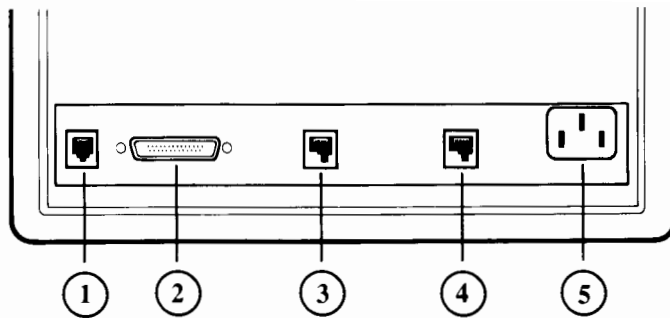
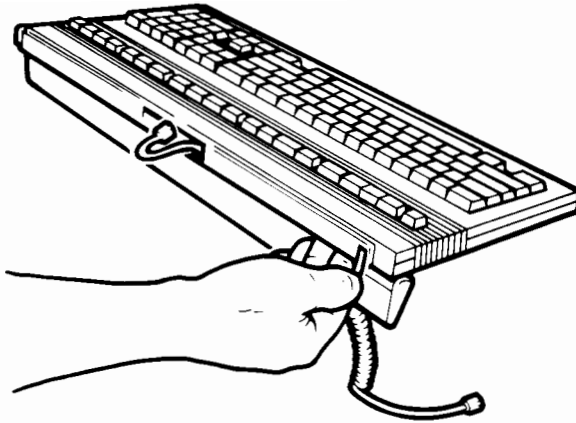

Figure 1-3. Display Unit Rear Panel Connections
Figure 1-4. Keyboard Cord Attachment and Angle Adjustment
3. Connect the keyboard cable. Both ends are identical. Plug one end into the rear of the display unit (Item 1 in Figure 1-3). Plug the other end into the connector located at the center rear of the keyboard (Figure 1-4).
- *If you are using the RS-232C connector*, connect the cable to Port 1's 25-pin connector on the terminal's rear panel (Item 2 in Figure 1-3). The other end must be connected to the a RS-232 computer port controller or modem. If you are connecting to a modem, follow the installation instructions in its manual.
- *If you are using the RS-423 connector*, connect the cable to Port 1's 6-pin offset phone connector on the terminal's rear panel (Item 3 in Figure 1-3). The other end must be connected to a RS-423 computer port controller or modem. If you are connecting to a modem, follow the installation instructions in its manual.
5. If you have an auxiliary device (such as a printer), connect its cable to the auxiliary port. The auxiliary port is labeled **Port 2** on the terminal's rear panel (Item 4 in Figure 1-3). The other end must
6. Connect the power cord. Plug the slotted end of the power cord into the AC socket on the right rear of the display unit (Item 5 in Figure 1-3). Plug the three-pronged end of the power cord into the electrical outlet. The outlet should be properly wired and grounded.
The keyboard can either lie flat or be raised at an angle. *To raise the keyboard at an angle*, flip down the bar on the rear underside of the keyboard (Figure 1-4).